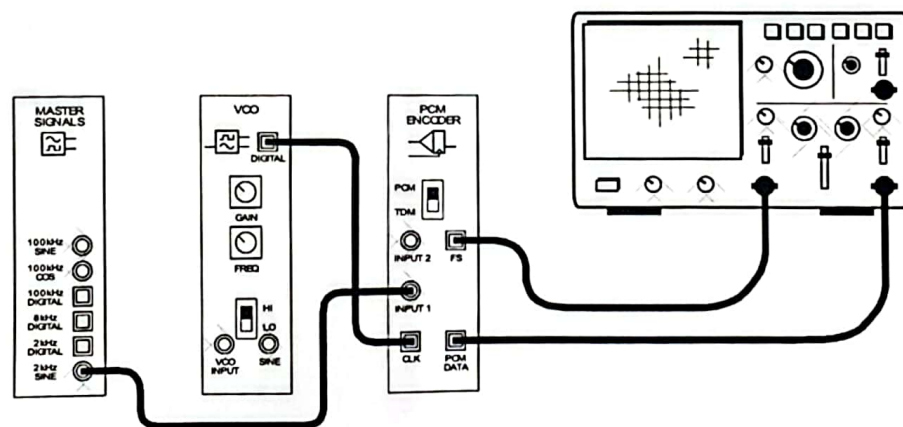

Figure 9
40. Connect the set-up as shown in Figure 9 below.